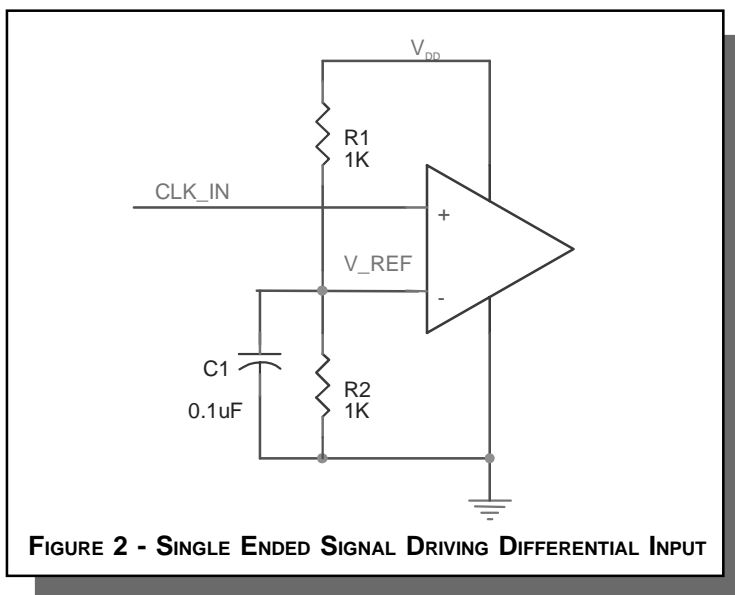

FIGURE 2 - SINGLE ENDED SIGNAL DRIVING DIFFERENTIAL INPUT
*Figure 2* shows how the differential input can be wired to accept single ended levels. The reference voltage  $V_{REF} = V_{DD}/2$  is generated by the bias resistors R1, R2 and C1. This bias circuit should be located as close as possible to the input pin. The ratio of R1 and R2 might need to be adjusted to position the  $V_{REF}$  in the center of the input voltage swing. For example, if the input clock swing is only 2.5V and  $V_{DD} = 3.3V$ ,  $V_{REF}$  should be 1.25V and  $R2/R1 = 0.609$ .